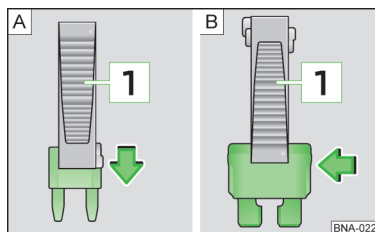

Fig. 83
- If applicable, remove the plastic tweezers 1 » fig. 83 from the cover of the distribution board.
- In case of *small fuses*, push on the tweezers 1 from the top » fig. 83 - A.
- In case of *larger fuses*, push the tweezers 1 onto the fuse from the side » fig. 83 - B.